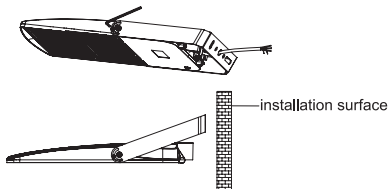

Figure 1
1. Loosen the screws on both sides of the bracket with a wrench. Adjust the Yoke bracket angle to be parallel with the installation surface. (Fig. 1).